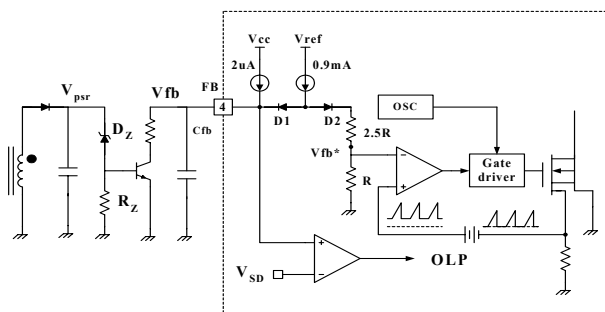

Figure 2. Primary side control circuit
**2. Feedback Control :** FS8S0965RCB employs primary side regulation, which permits elimination of feedback circuit components in the secondary side such as opto coupler and TL431. Figure 2 shows the primary side control circuit. The primary side regulation voltage ( $V_{psr}$ ) is controlled to the breakdown voltage of zener diode ( $D_z$ ). Because current mode control is employed, the drain current of the power MOSFET is limited by the inverting input of PWM comparator ( $V_{fb}^*$ ). When MOSFET turns on, usually there exists high current spike in the MOSFET current caused by primary-side capacitance and secondary-side rectifier reverse recovery. In order to prevent premature termination of the switching pulse due to the current spike, the FPS employs leading edge blanking (LEB). The leading edge blanking circuit inhibits the PWM comparator for a short time after the MOSFET is turned on.